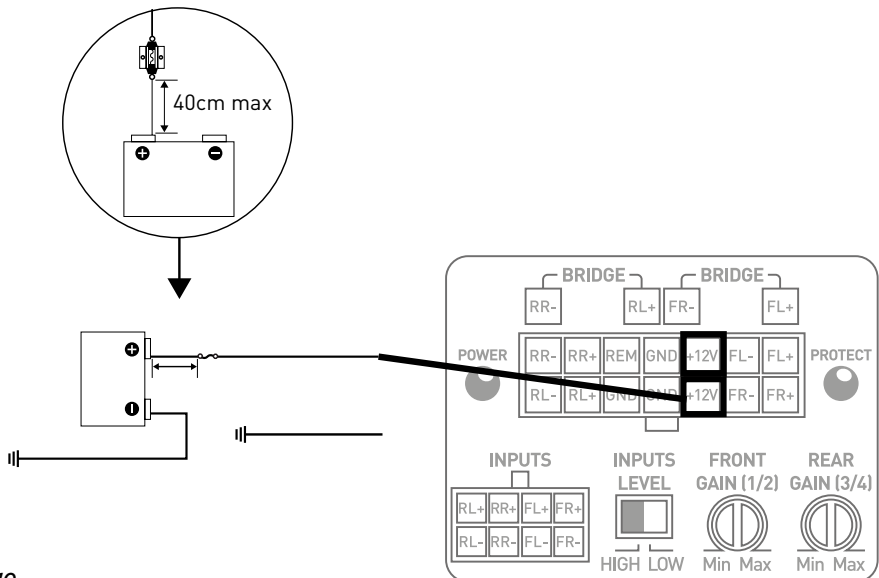

fig. 10
9. Always protect the battery and electric circuit from potential damage using fuses. Install a fuse holder and adequate fuses on the 12V positive (+) power cable less than 15" (40cm) away from the battery terminal. Ideally, this above-mentioned distance should be as short as possible (*fig.10*).
Solder the positive (+) power cable to the wiring harness supplied for your IMPULSE 4.320 amplifier (fig. 10)